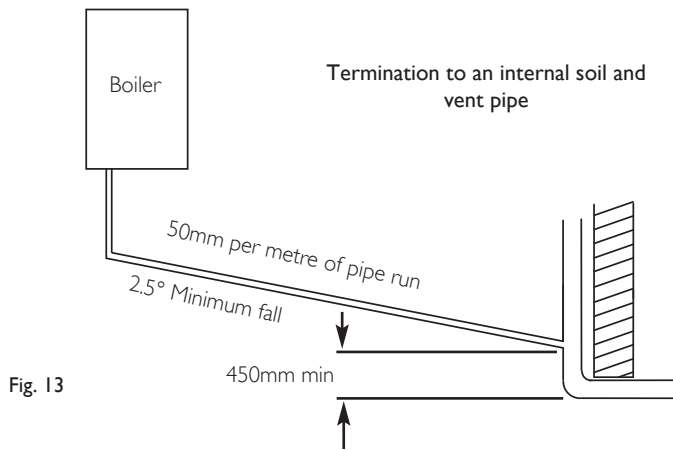

Fig. 13
- i) to an internal soil & vent pipe - Fig. 13